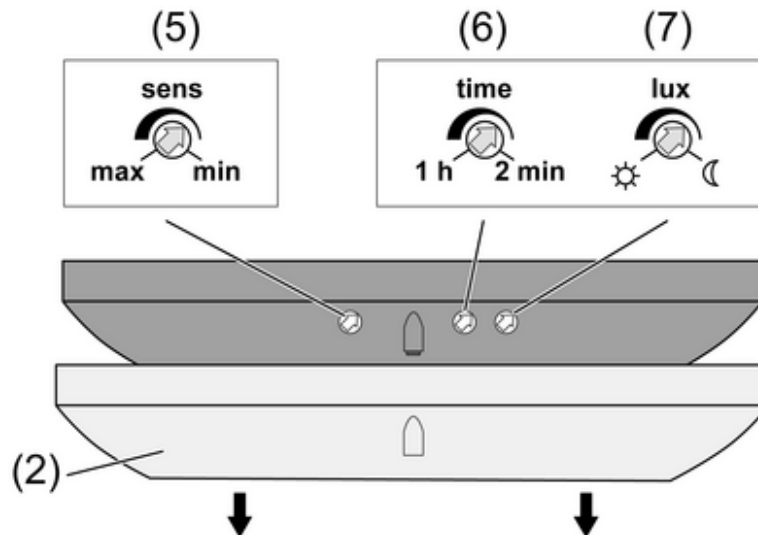

Figure 10: Adjuster
- Pull decor ring (2) off of presence detector (Figure 10).